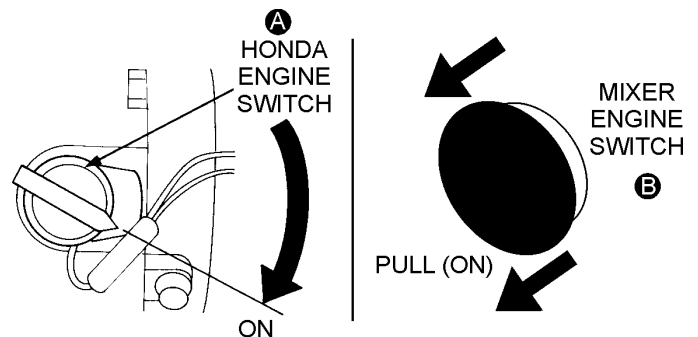

Figure 11. Engine ON/OFF Switches (ON Position)
5. Place both engine ON/OFF switches (Figure 11) in the "ON" position.